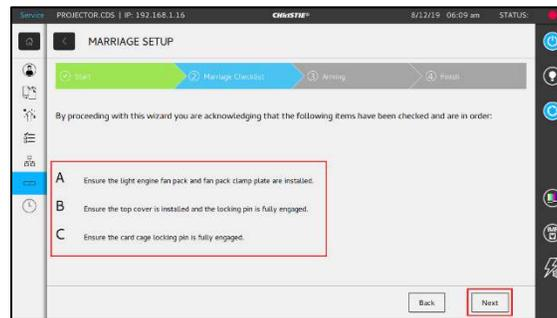

Figure 30: Marriage Checklist
6. Ensure all the items on the **Marriage Checklist** (as shown in **Figure 30**) have been done. If yes, then click **Next**.
7. Login by entering the **Marriage account username & password** & click on **Login** (as shown in **Figure 30**).